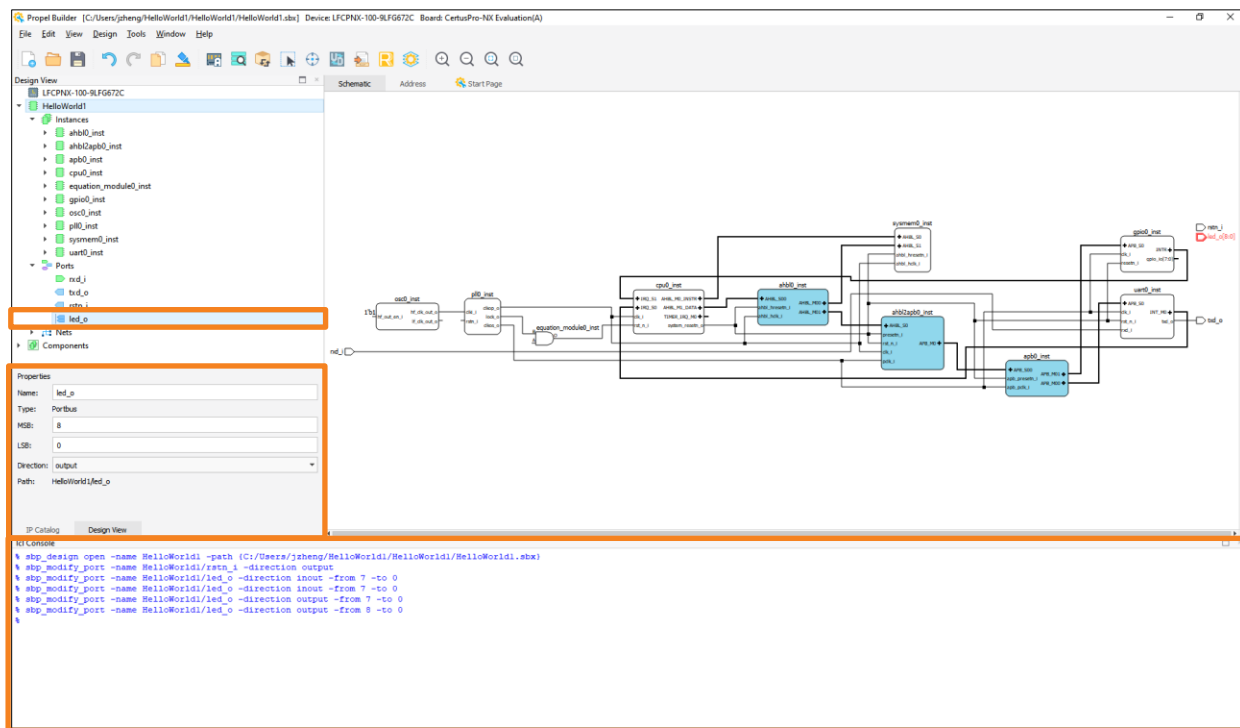

Figure 2.106. PortBus Direction
- e. PortBus MSB, LSB and direction can be modified. Click on PortBus and then use the drop-down menu to choose the desired direction (Figure 2.106).